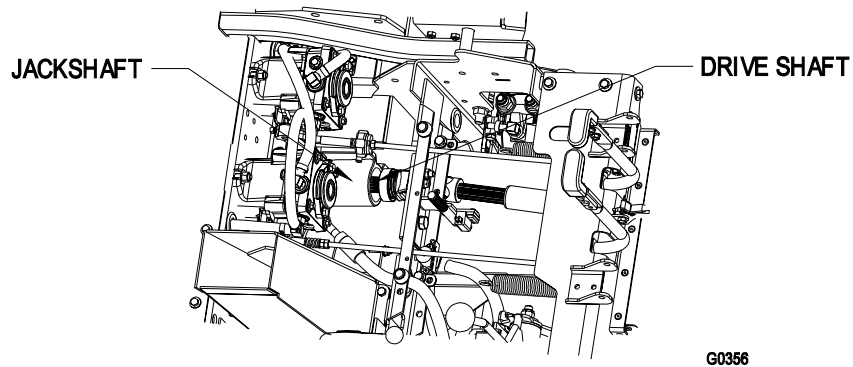

FIGURE 1
- c) Raise seat and install drive shaft onto jackshaft (See Figure 1).
- h) Raise seat and disconnect drive shaft using quick coupler at jackshaft. See Figure 1.